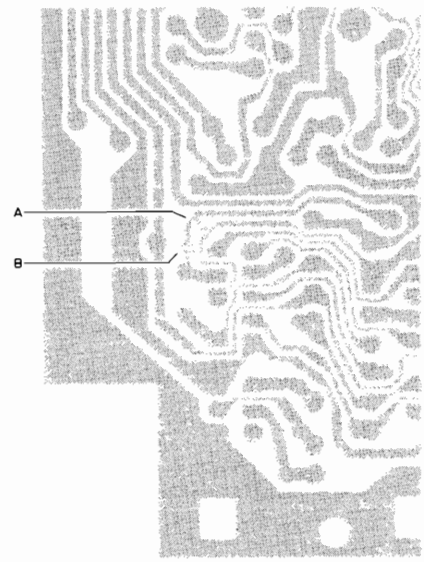

Fig. III-26
- On the servo panel, close the soldering bridge A and open soldering bridge B (Fig. III-26).
- On the servo panel, close the soldering bridge A and open soldering bridge B (see Fig. III-26).